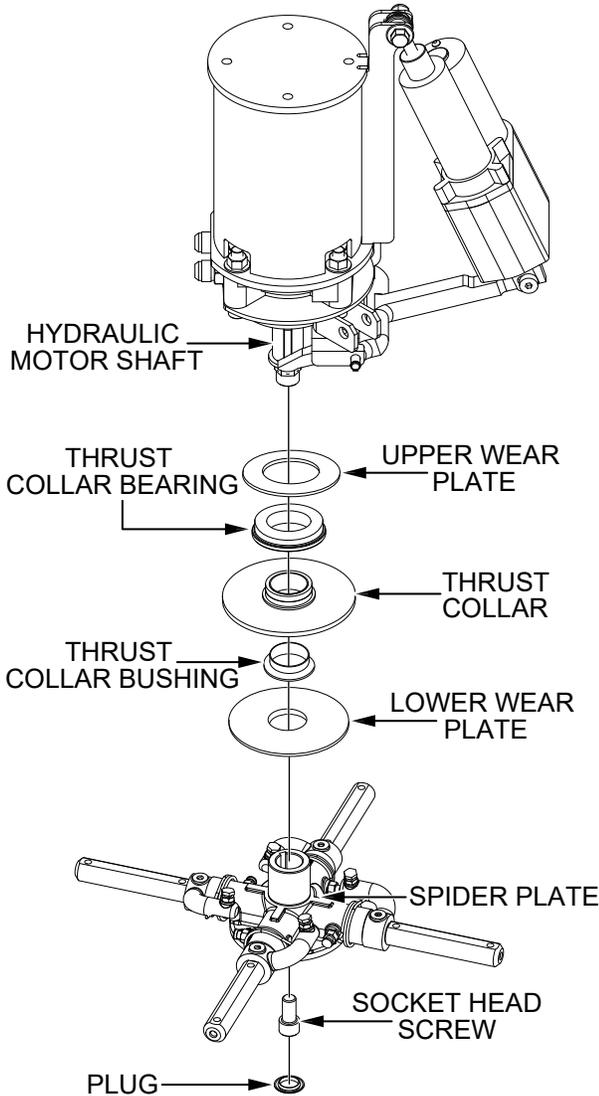

Figure 45. Spider Removal
1. Remove and set aside the cap plug and retaining screw securing the spider assembly to the hydraulic motor shaft (Figure 45).